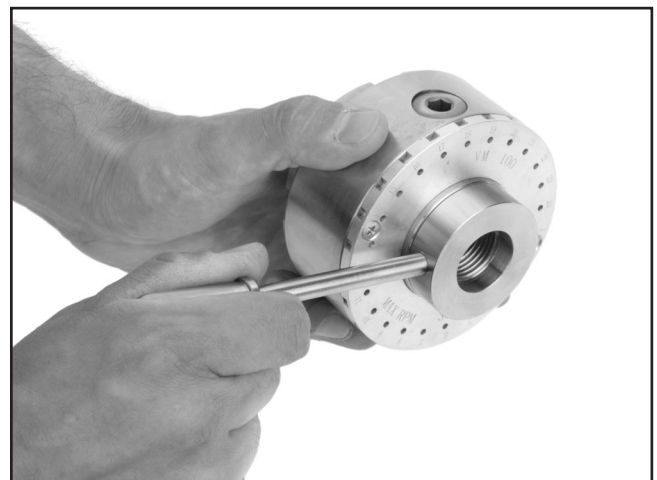

Figure 2. Insert Assembly.
3. Using the insert lever, tighten the insert into the chuck body. This is accomplished by inserting lever into the hole in the insert and turning the lever until the insert seats firmly against the chuck body (**Figure 2**).